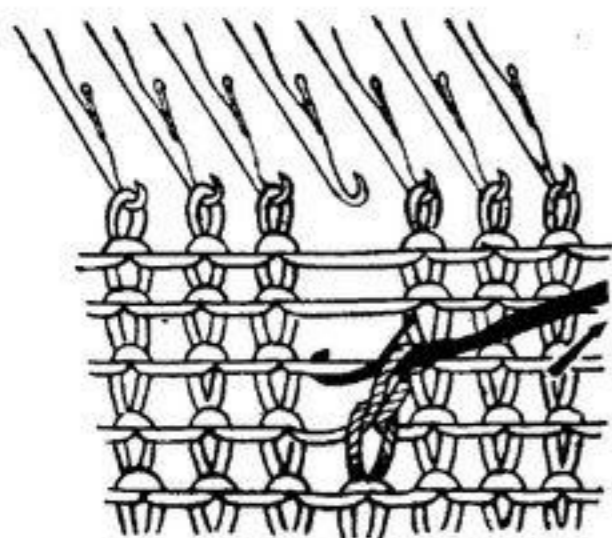

Fig. 34-5
4. Repeat until the last strand has been picked up. (Fig. 34-5 & 6)